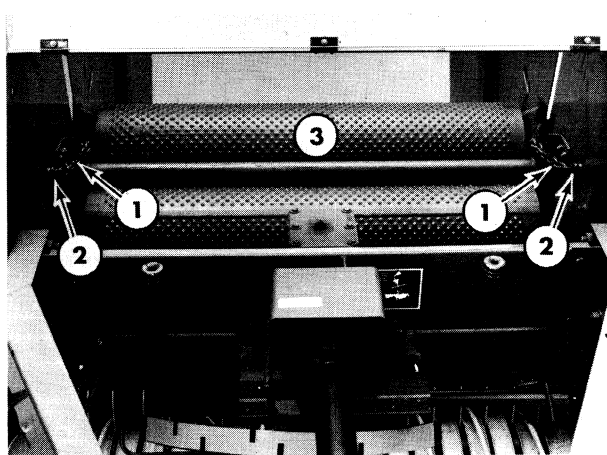

Figure 9-48
6. Support the sledge frame assembly, 3, Figure 9-48.